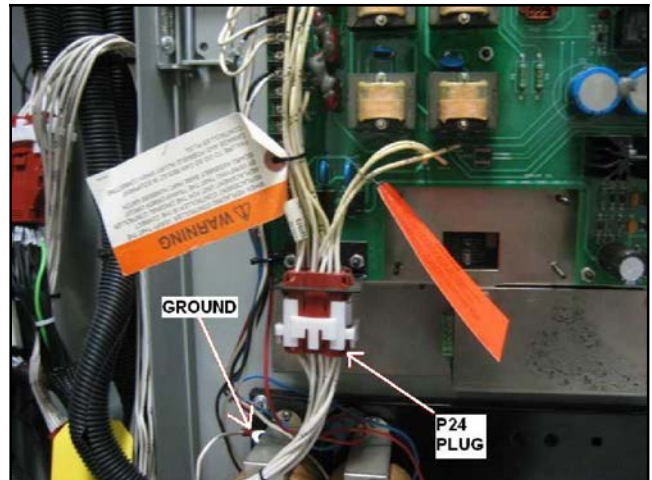

Figure 16 Disconnect P24 and Ground
13. Disconnect plug P24 and ground connection. See Figure 16.